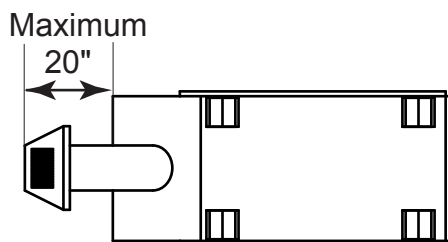
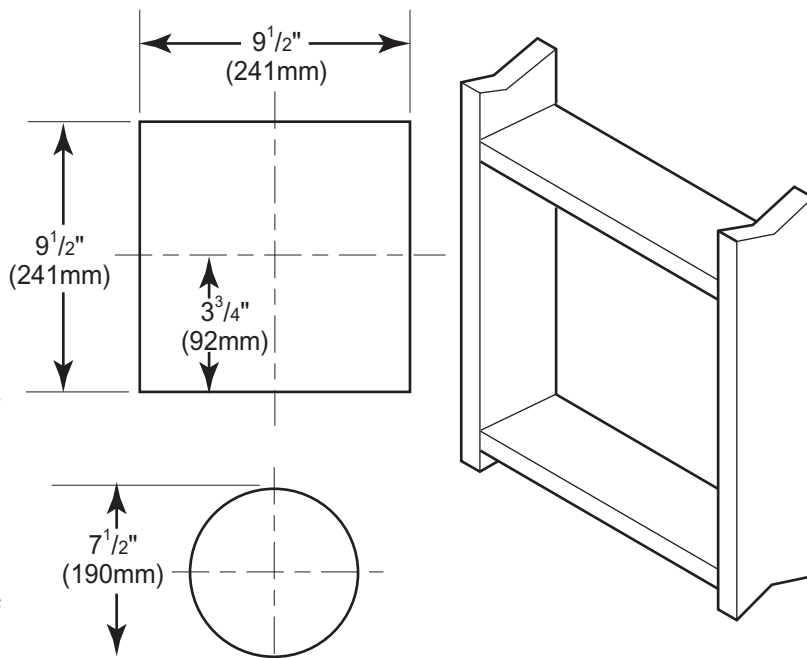

Figure 11 - Rear Vent Application, Maximum Horizontal Distance
Figure 12 - Vent Opening Requirements
- The maximum horizontal distance between the rear of the appliance and the outside of termination is 20" (508 mm). See Figure 11.
1. Locate and cut the vent opening in the wall. For combustible walls first frame in opening. See Figure 11.
**Combustible Walls:** Cut a 9½" H x 9½" W (241mm x 241mm) hole through the exterior wall and frame as shown. See Figure 12.
3. Attach vent pipe assembly to the fireplace. Set fireplace in front of its permanent location to insure minimum clearances. Mark the wall for a 9½"H x 9½"W (241mm x 241mm) square hole (for noncombustible material such as masonry block or concrete, a 7½" [190mm] diameter hole is acceptable). See Figure 11. The center of the hole should line up with the center line of the horizontal rigid vent pipe end. Be sure to allow for minimum rise. Cut a 9½"x9½" (241mm X 241mm) square hole through combustible exterior wall (7½" [190mm] diameter hole if noncombustible). Frame as necessary. Allow ¼" minimum rise per foot. See Figure 12.
1. Establish vent hole through the wall. *See Figure 12, page 17.*